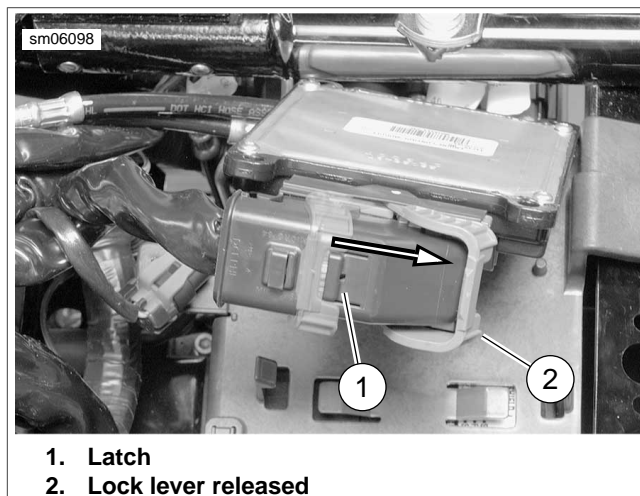

Figure A-38. Unlatch ECM Connector
See Figure A-38. While pressing latch (1), rotate lock lever to the released position (2).